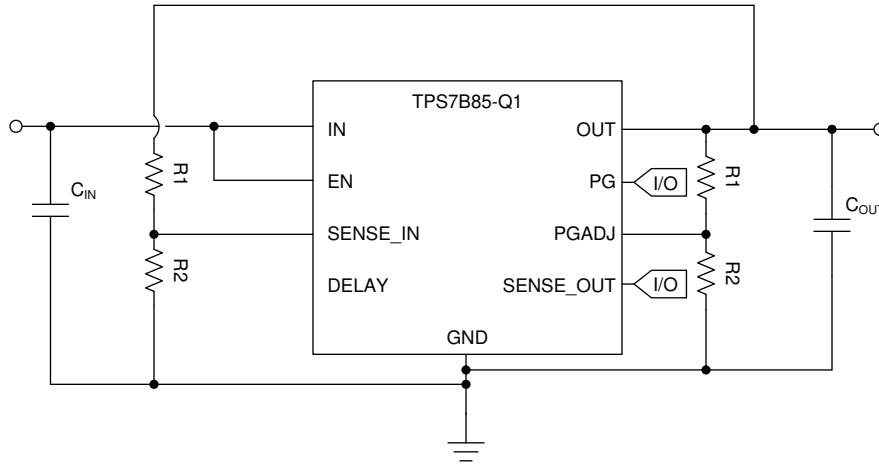

图 8-8. Creating an Overvoltage Detector on the Output
Another feature that is often desired is the ability to monitor the output voltage for overvoltage (OV) or undervoltage (UV) events. Because the integrated power-good pin only detects undervoltage events, a separate solution must be implemented to monitor for overvoltage issues. This monitoring can be done by using the integrated SI pin and connecting this pin to the output through a resistor divider. Then place the rising threshold of the SI pin where the output voltage is going to be flagged as overvoltage. 方程式 7 depicts how to calculate the resistor divider for this application based on the desired overvoltage threshold. If this method is used for creating an overvoltage detection, the output of the overvoltage signal has inverted logic. 图 8-8 shows the typical configuration for using the device as an overvoltage monitor.